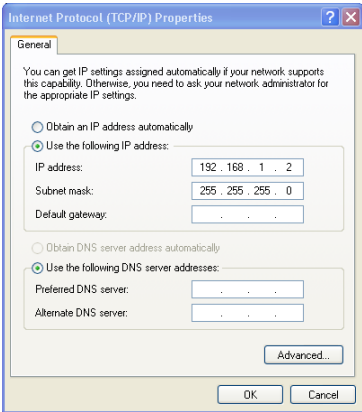

Figure 31: Internet Protocol (TCP/IP) Properties Window
6. Select the following IP Address, and fill in the details as shown in Figure 31. You can use any IP address in the range 192.168.1.1 to 192.168.1.255 (excluding 192.168.1.39) that is provided by your IT department.